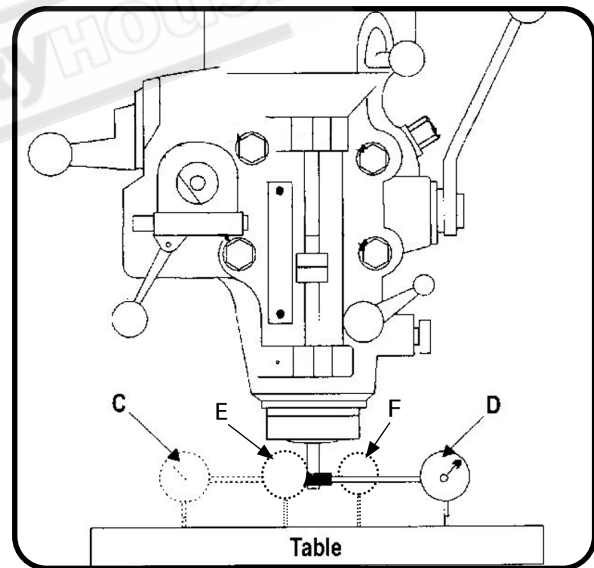

Fig. 24
2. Put the spindle drive in neutral and rotate the spindle 180 degrees (when rotating, raise the indicator plunger to prevent it from dropping into the table T-slots (Fig. 24)
3. The indicator should read the same in position "C" and "D" (Fig. 24) of the table. If not, loosen the four hex nuts (A of Fig. 22) and reposition the mill head. . If the indicator does not read the same in "E and "F" (Fig.24) loosen the nuts "A" in Fig. 21 and reposition the mill head.